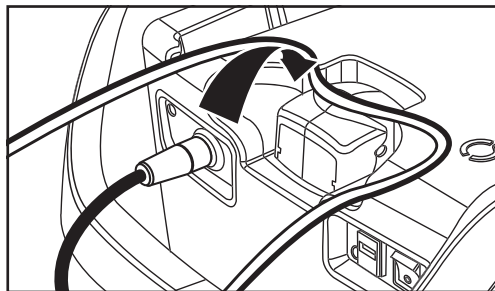

Figure 7. Loading Saline Flush Line into Saline Pump.
4. Place the Saline Flush Line in the Saline Pump. Ensure Saline Flush Line is seated such that the Saline Pump door can close smoothly. Align the color indicators on the generator and saline flush line (Figure 7).